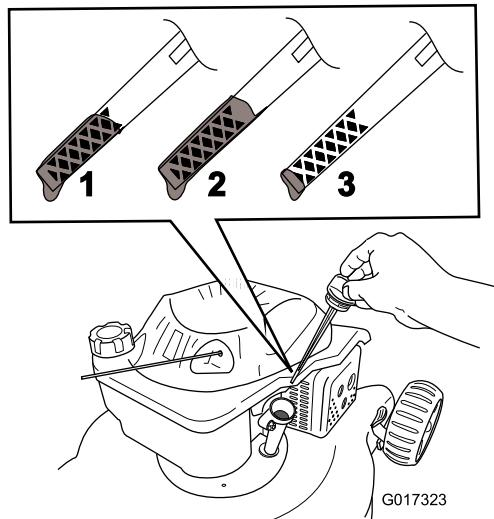

Figure 4
2. Remove the dipstick (Figure 4).
3. Slowly pour oil into the oil fill hole, wait a few minutes, and check the oil level on the dipstick by wiping the dipstick clean and then inserting, but not screwing in, the oil fill cap into the hole (Figure 4).
Note: Fill the engine crankcase with oil until the dipstick indicates that the engine oil level is correct as shown in Figure 4. If you overfill the engine with oil, remove the excess oil as directed in Changing the Engine Oil.